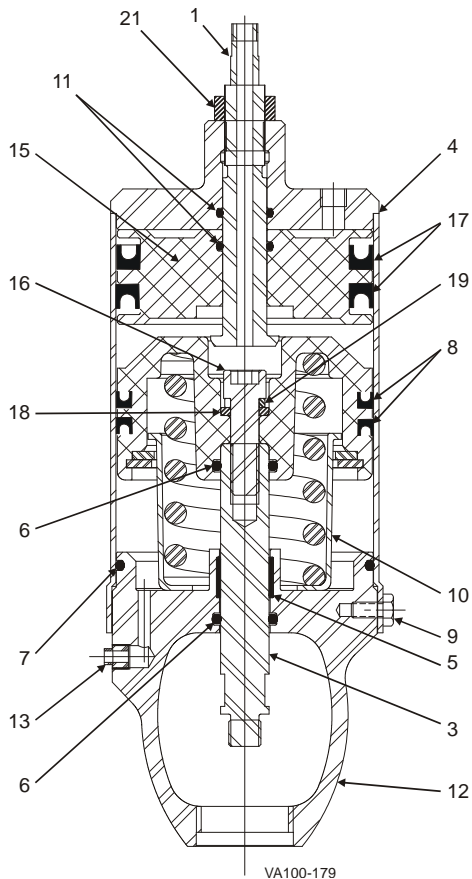

Figure 34 : 4" Air-to-Lower 3-Position Actuator
1. Inspect the lower piston U-cup seal (Figure 34, item 8).
2. Remove the worn U-cup seal. Do not score or nick grooves in the piston (item 10).
5. Inspect the stem o-ring seal (item 6).
9. Inspect and replace the PTFE guide bearing (item 5) on the piston as needed.
10. Connect the piston and spring assembly to the stem (item 3) with the bolt (item 16).
11. Assemble the piston and spring assembly to the yoke (item 12).